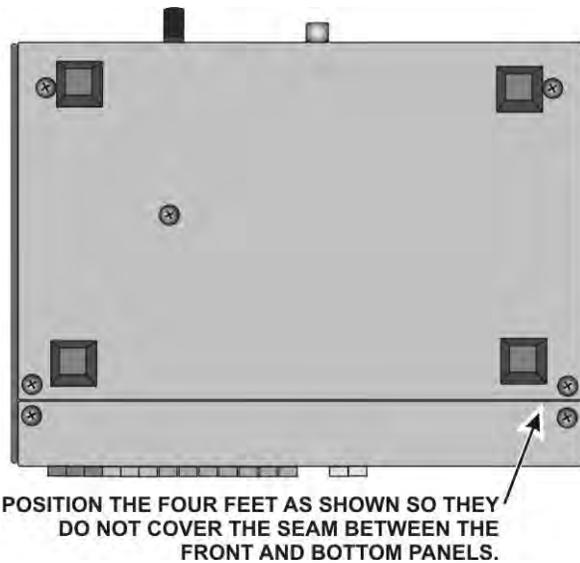

Figure 12. Mounting the Feet on the Bottom Cover.
- Mount the four self-stick feet on the bottom cover as shown in Figure 12. Take care not to bridge the seam between the bottom and front panel.